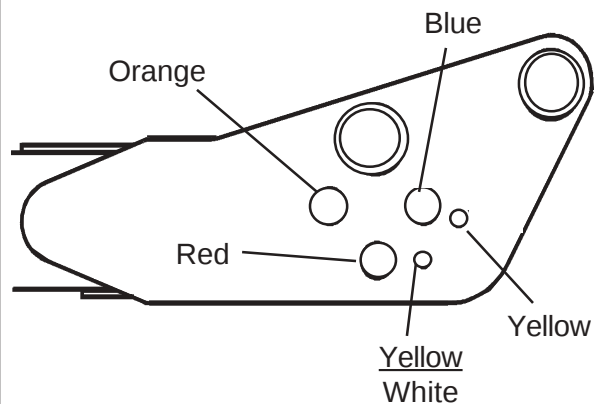
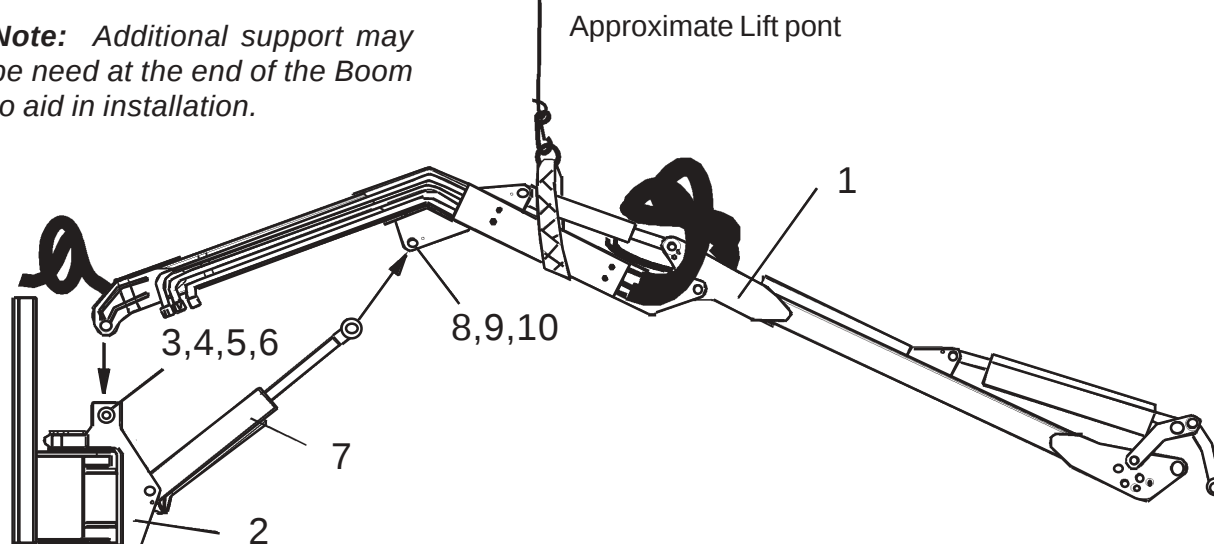

Figure 2
Figure 3
3. With a hoist raise the Boom Arm (1) and lower onto the King Post (2). Align the Boom Arm and King Post with the Lift Hinge Point. Insert Main Pin Bolt (3) into Boom Weldment and Turning Arm. Attach Lockwasher (4), Washer (5) and Bolt (6) and tighten (also see Parts Section on the Boom Assembly) (See Figure 2)
4. Attach the Rod end of the Lift Cylinder (7) to the Lift Section with Pin (8), Bolt (9) and Nut (10) (also see Parts Section on the Boom Assembly) (See Figure 3).
The Boom will need to be lifted with a hoist (See Figure 3 & 4). It will not have the Head installed. For illustrations we are showing the Rotary Head installed, this helps stabilize the Boom while it is being installed on Tractor. Insert the Boom Pivot Pin Weldment and Retaining Nut Tighten the retaining Nut Now. (See Figure 5).
7. Connect Lift Cylinder to Boom. This is simple, as the Cylinder will only connect in one place. (See Figure 3). The Lines coming out of Boom are capped (See Figure 2)
11. Hose Rings. There are Hose rings welded on to the front of the RH Frame Rail that Hoses should be run through (See Figure 2), this hold Hose up and in place, These rings should have been install in an earlier Assembly Step and should have had hoses run through them when hoses were installed. Make sure none of the hoses are going to scraped or damaged by other components (See Figure 4, 5 & 6).